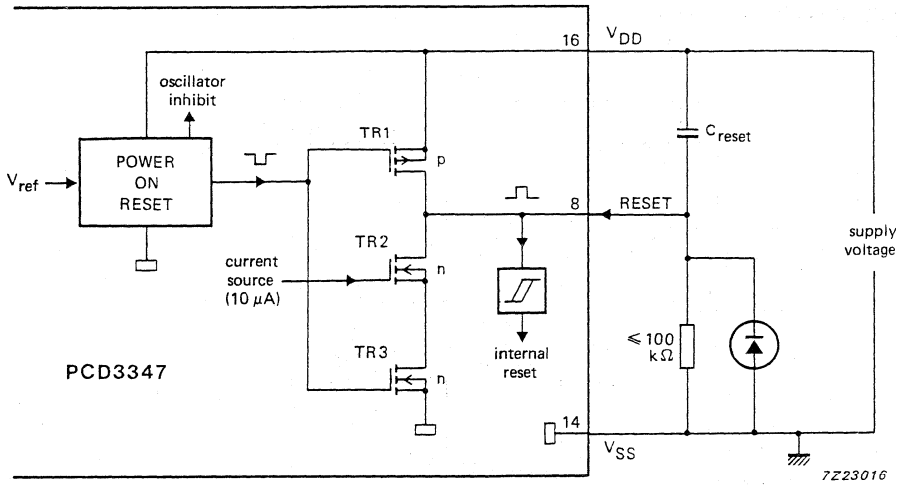

Fig. 20 Stretched power-on reset with external CR circuit.
2. If  $V_{DD}$  has a slow rise time then the RESET signal should be stretched by an external CR circuit (see Figs 20 and 21). In the event of a short drop in  $V_{DD}$ , the diode path discharges the capacitor rapidly to ensure a reliable power-on reset. The RESET signal should reach at least 70% of the final value of  $V_{DD}$  to ensure a correct reset. Given that the RESET voltage and  $V_{DD}$  rise exponentially, the above requirement is satisfied when the time constant of the RESET pulse is  $> 8$  times the time constant of  $V_{DD}$ . If  $V_{DD}$  rises linearly then a RESET time constant  $> 2$  times the rise time of  $V_{DD}$  is required.